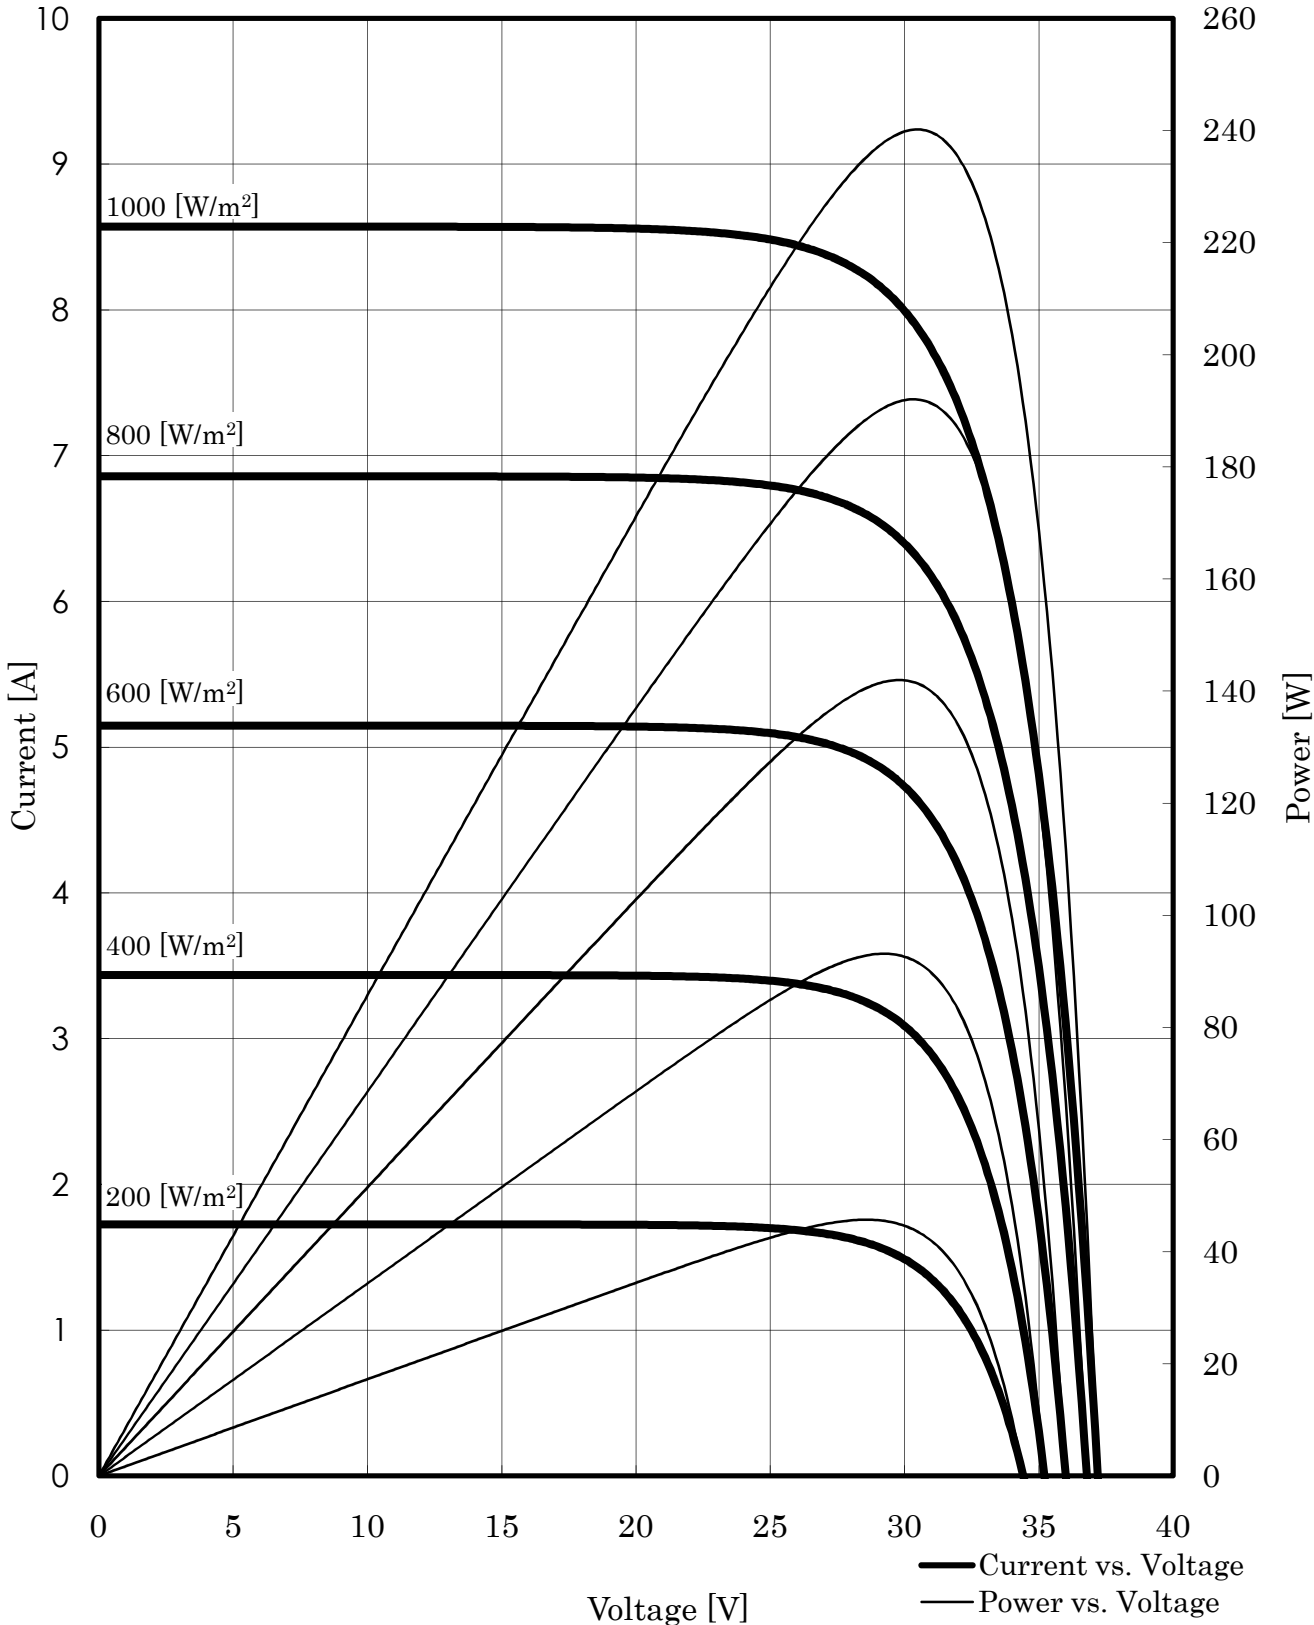

Fig. I -2 Current , Power , versus. Voltage Characteristics
- (2) Fig. I -2 Current , Power , versus. Voltage Characteristics